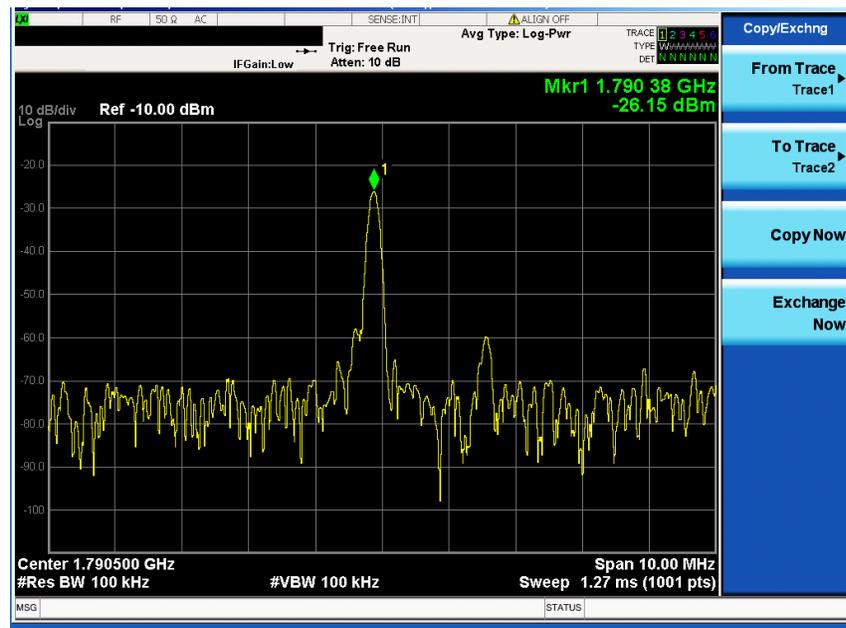

Figure 2. Figure 2. LO's frequency and power
- 5) Set peak marker and read the result: Press [Peak Search]. The result appears on the upper right of the display screen, as shown as Figure 2.